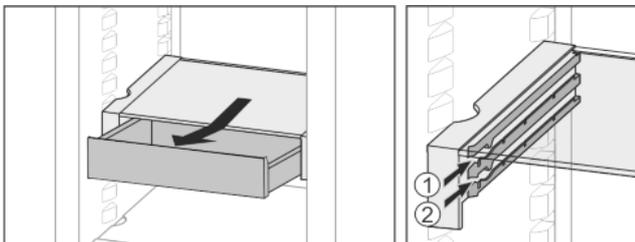

Fig. 24
- ▶ Slide in at any height *Fig. 24 (1)* or *Fig. 24 (2)*.